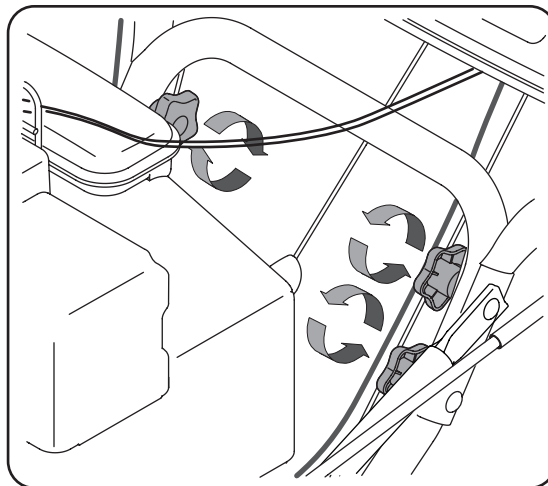

Figure 2
- Remove the lower handle knobs and carriage bolts from each side of the lower handle. See Figure 2.